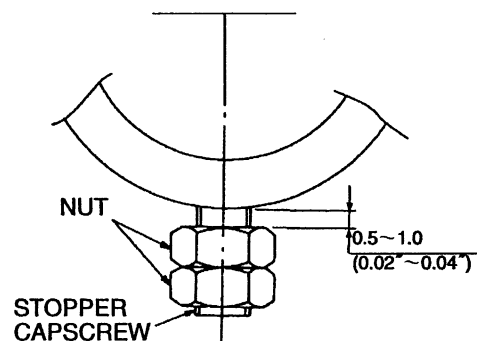

Fig. 6-2 Tightening proceduers for nuts
(1) Referring to the Chapter LF03 "ATTACHMENT DIMENSIONS" replace the worn-out bushings and dust seals to new ones.
(2) Before installing pin (P), (Q) and (R), apply grease to their shaft area.
(3) Referring to Fig. 6-2, install the nuts for capscrew to prevent the pin from coming out.